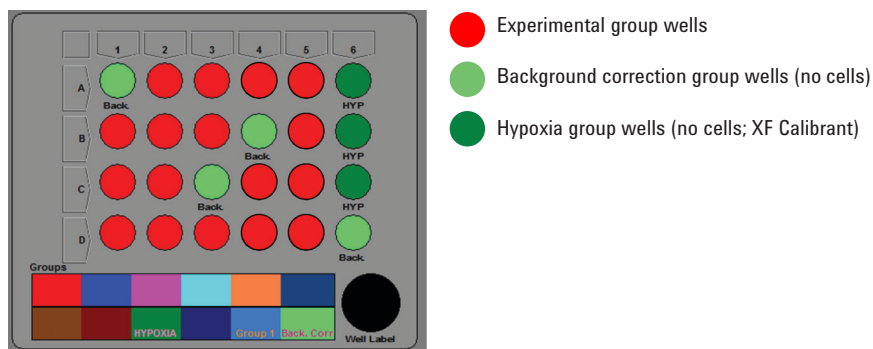
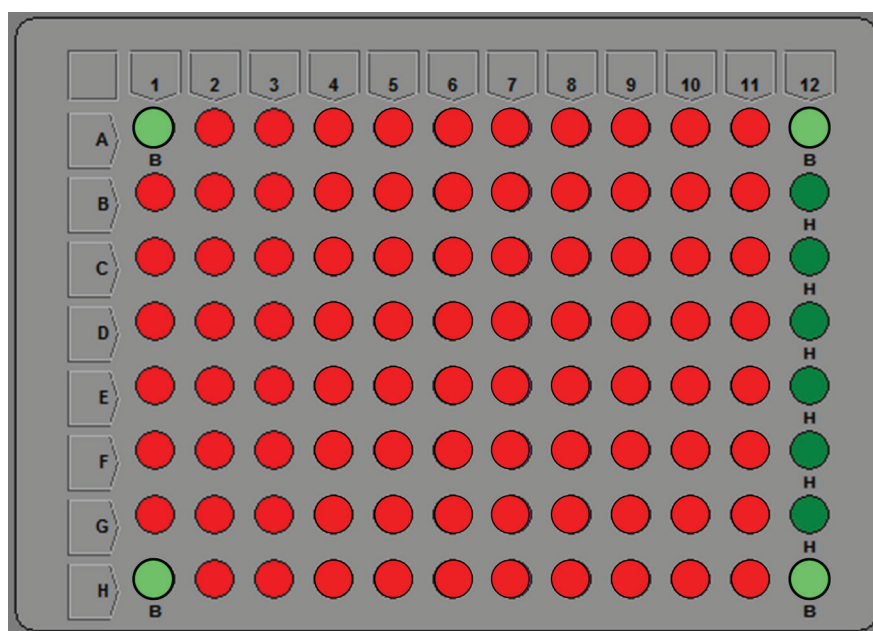

Figure 2. 24-Well plate map.
Figure 3. 96-Well plate map.
- Reserve the last column of wells (minus background wells) for the hypoxia (sodium sulfite injection) group (0 % O₂ reference). See Figure 2 and Figure 3.